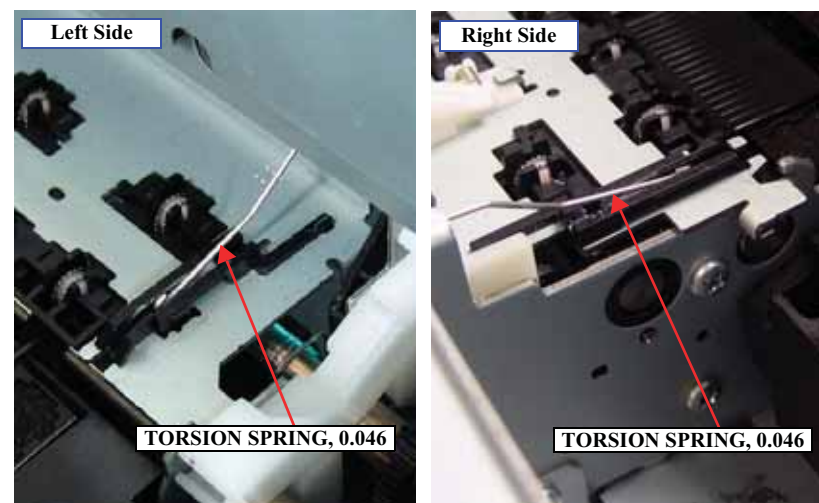

Figure 4-73. Releasing the TORSION SPRING, 0.046
11. Push in the FRAME, PAPER, EJECT, ASSY to the end, and release the TORSION SPRING, 0.046 secured to the both ends of FRAME, PAPER, EJECT, ASSY. *See Figure 4-73.*